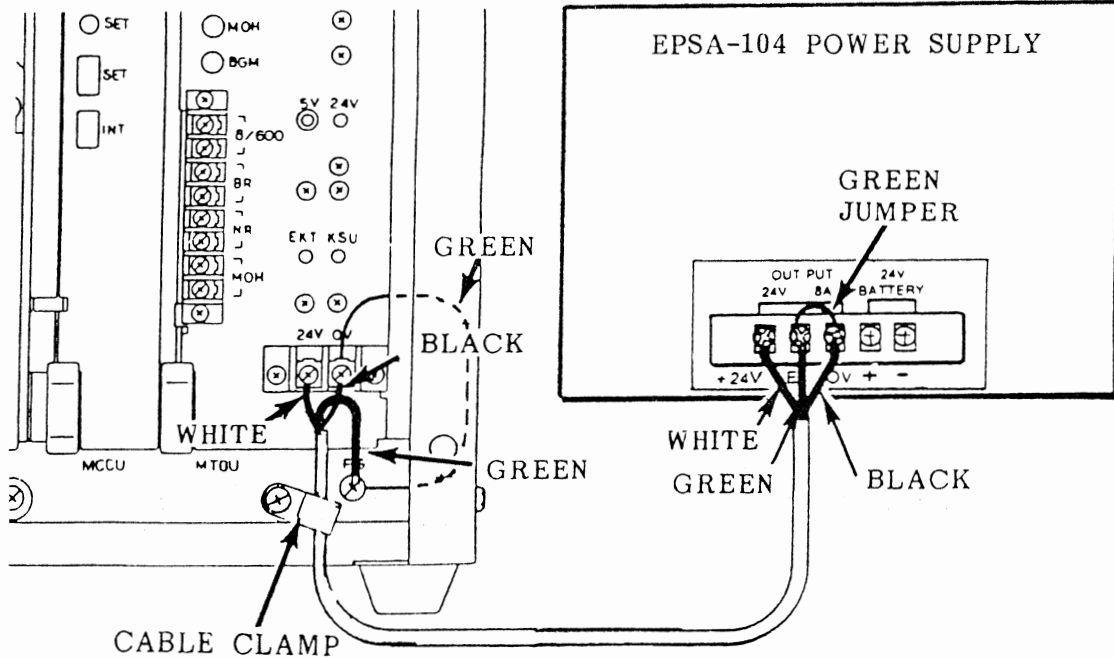

FIGURE 8
06.22 Disconnect the power supply from the 115VAC outlet. Remove the plastic protective cover from the power terminal strip on the MTOU, and, with the supplied cord, connect the power supply to the terminal strip and the MKSU frame ground (see Figure 8) in the following manner.
06.23 Use the additional green wire packed with the system to bond the "E" and "0V" terminals on the power supply (see Figure 8).
06.24 For protection against static electricity, a green jumper wire is attached to the "FG" screw (refer to Figure 8). This wire must be connected to the "OV" terminal on the MTOU power strip. Reinstall the plastic protective cover on the power strip at this time.